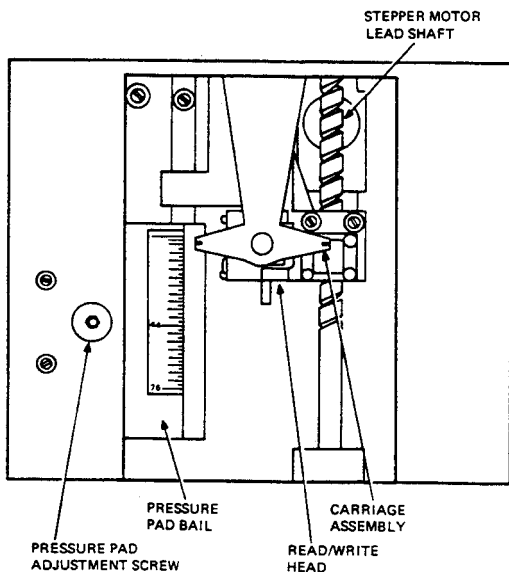

Figure 2-12 Head Carriage Components
2. Lift the pressure pad assembly (Figure 2-12). Clean the head with magnetic head-cleaner.
2. Clean the shaft (Figure 2-12) with alcohol while moving the carriage assembly in and out by hand-turning the shaft.